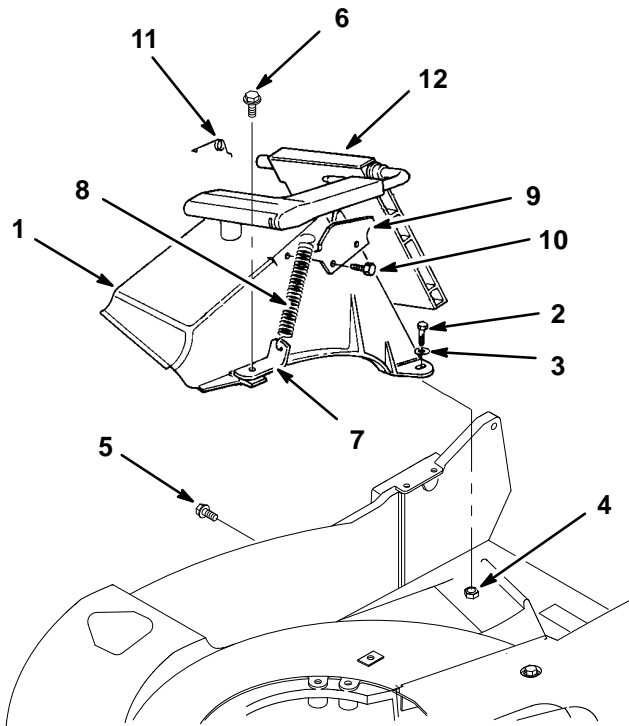

**Figure 8**
1. Remove three (3) engine screws and carefully lift engine off housing (Fig. 8). Discard screws and engine.